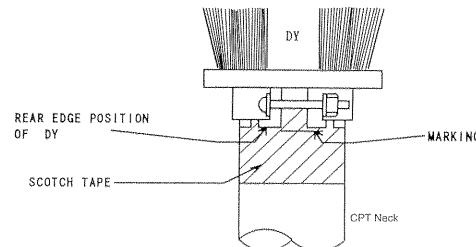

Fig. 2-2
- (7) Receive the single red signal. When the single red signal is not available, short-circuit between the base and emitter of Q845, and between the base and emitter of Q857 to set to single red.
- (8) Pull back DY gradually and when the color unevenness of both sides of the picture disappear, mark the rear edge position of DY on the tape wound around CPT neck as shown in Fig. 2-2.